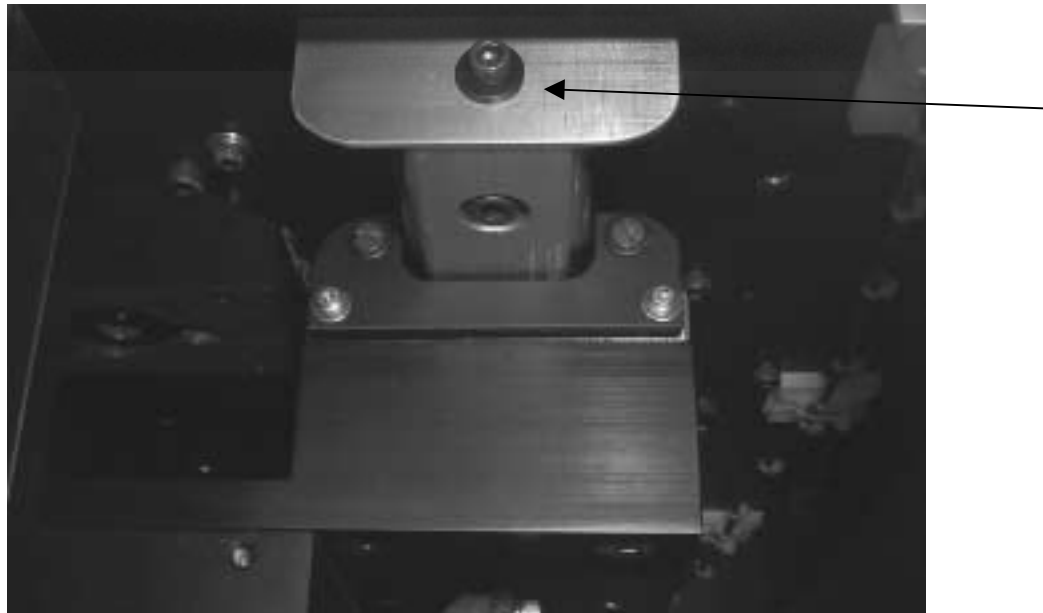

Figure 8.
16. Next, remove the front stop by unscrewing one screw in the front and replace it with the carriage stop. (See Figure 8).